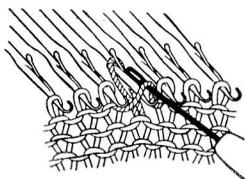

Fig. 28
- b. Move the stitch behind the latch of the needle, catch the thread of the unknitted stitch into the hook of the needle. (See Fig. 28)